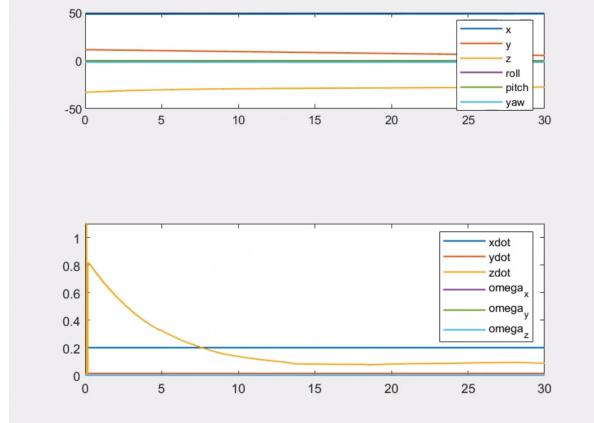

Figure 6: Resulted graph during the Minimum Altitude Vehicle task imposed 5m distance
- **5 m:** The same as before, the activation is active at the first instant because again the initial position is below the minimum altitude. This control task is a safety one, so every time the UVMS is under the minimum altitude is active and it has the highest priority. Again, it seems no reasonable to perform such big gap with the seafloor (Reported graph, Figure 6).